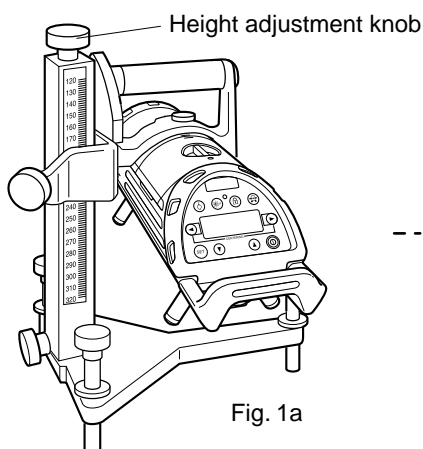
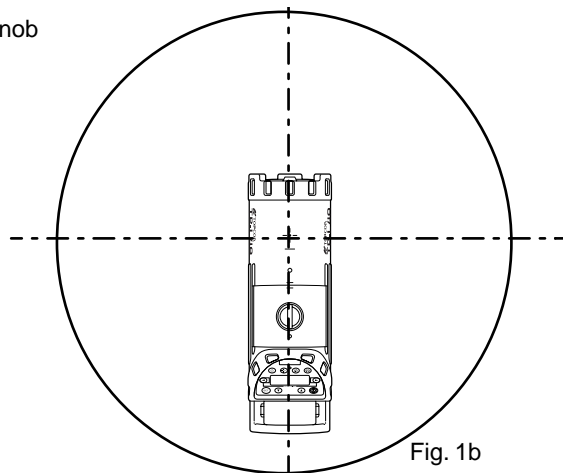
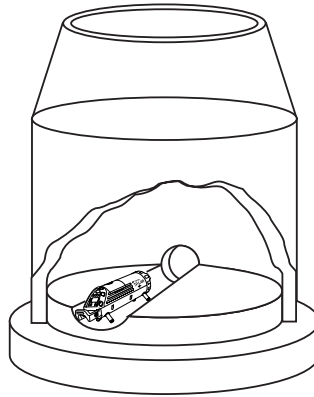

Fig. 1a
Fig. 1b
Fig. 1c
- 1** Attach the TP-L4G/A/B/BG to the trivet stand (Fig. 1a) and position the LED over center-line of the pipe or invert in the center of the manhole (Fig. 1b). By using three leveling screws, adjust the angle of the laser in direction indicated on the display until the bubble indicator is in the center position. For pre-poured inverts attach the appropriate sized feet and set the laser in the center of the invert (Fig. 1c).